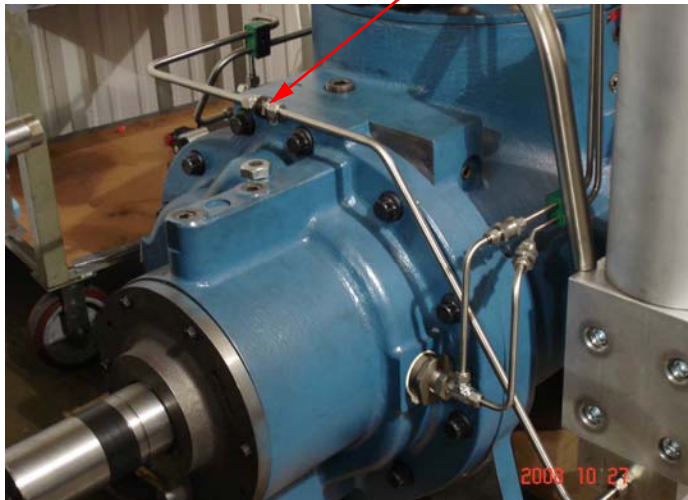

FIGURE 5: DUPLEX OIL SYSTEM - DIRECTIONAL CONTROL TUBE CONNECTION
- 3.19 Pump 1/2 quart (0.5 L) of the VpCI corrosion-inhibitor/oil mixture into the tubing line going to the directional control manifold (see Figure 5).